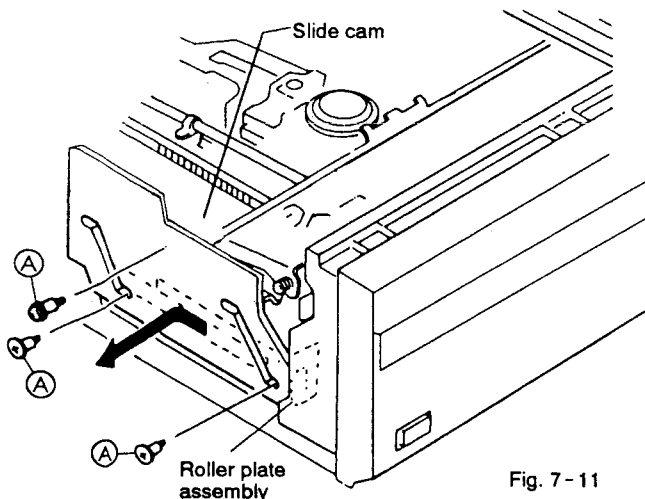

Fig. 7-11
7.8 REMOVING THE SLIDE CAM AND ROLLER PLATE ASSEMBLY(Fig.7-11)
- ① Set the player with the tray down.
- ② Remove three screws (A) and slide the slide cam toward the rear to remove it.
- ③ Remove the clamper arm (A) assembly (see page 77) after removing slide cam to remove the roller plate assembly.